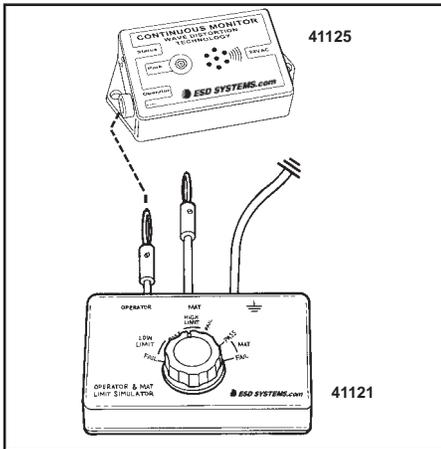

Figure 10. Connecting test lead from 41121 to 41125.
Step 2: Insert the calibration unit’s banana plug marked “Operator” into the jack marked “Operator” on the 41121 tester. See figure 10.